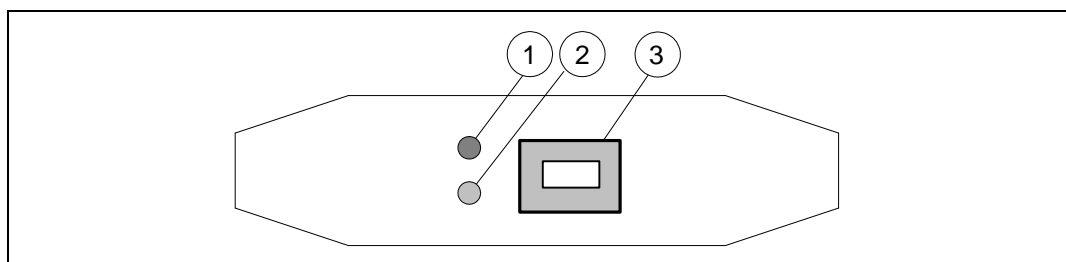

Figure 1-3 USB side connectors and LEDs
Connect the USB socket of the Interface module to an USB port of the PC using the cable delivered with the device (cf. Figure 1-3, (3)). Connectors can be identified by the sticker at the device bottom..